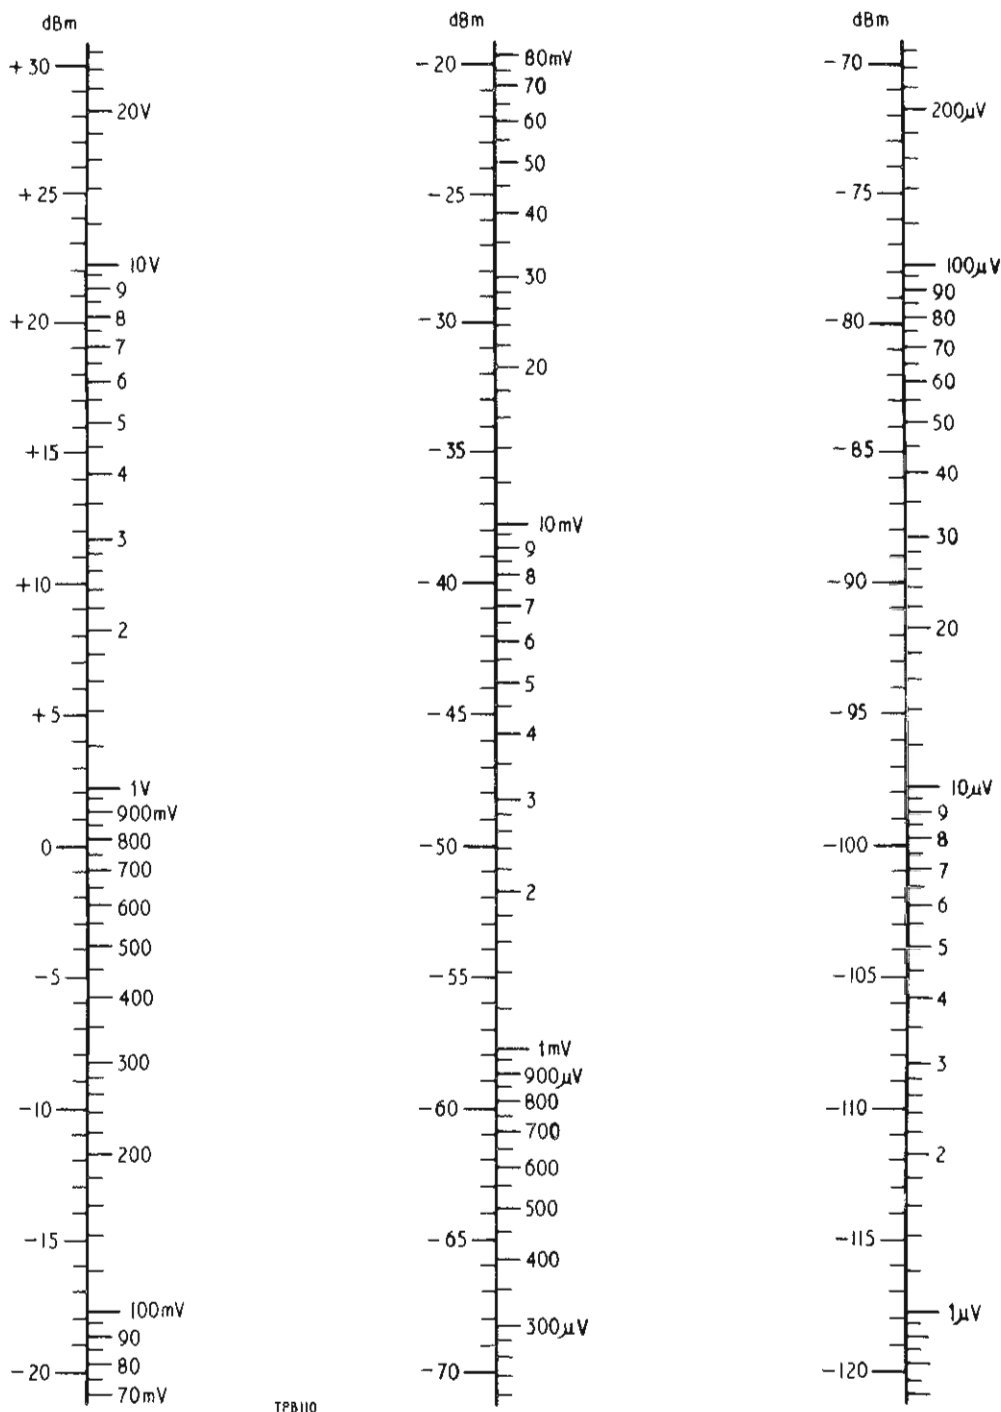

Fig. 3 Output voltage corresponding to dBm when output impedance and load are $600\ \Omega$
50. When the output impedance and the matching load are less than 600 Ω , the output voltage is the input voltage multiplied by the same factor as for 600 Ω (Fig. 3) reduced by the voltage step-down ratio of the output matching transformer (Table 2).